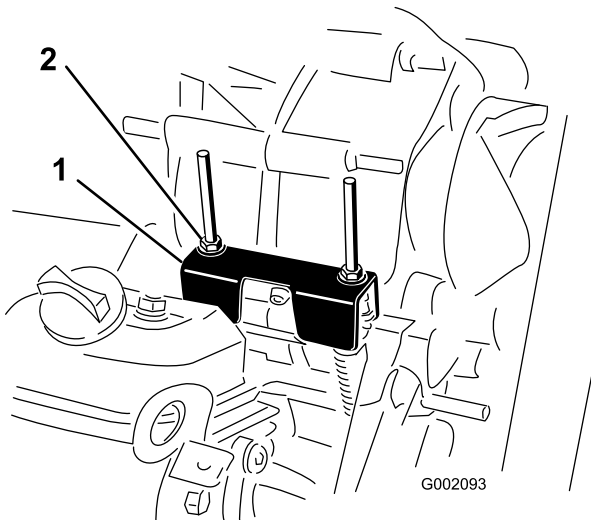

Figure 28
When performing routine maintenance and/or engine diagnostics, the transaxle must be shifted into neutral (Figure 28). The vehicle has a neutral position on the shift lever, which controls the neutral in the transaxle. The following steps should be taken to make sure that the neutral shift lever operates the transaxle neutral correctly:
2. Ensure that the neutral bracket is in the Neutral position (level to the cable mounting bracket located below the shift bracket) by turning the driven clutch (Figure 28).
3. Tighten 1 of the locknuts (Figure 28) to achieve a gap of 0.76-1.52 mm (0.03-0.06 inch).